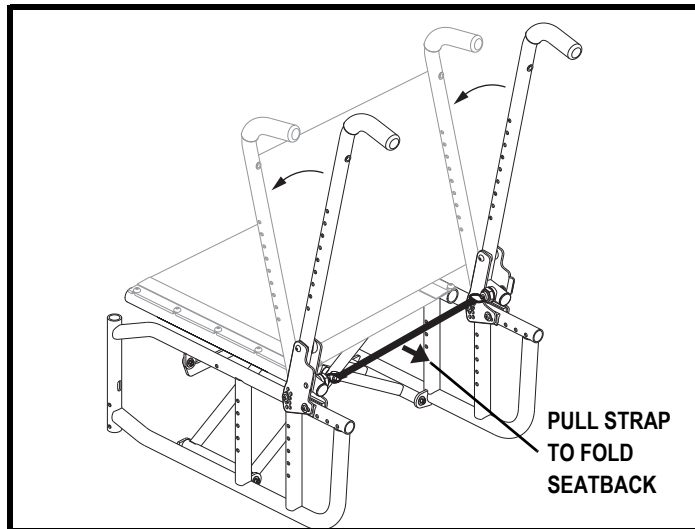

Figure 12. Folding the Seatback Down
3. Pull the strap at the rear of the seat base away from the wheelchair to fold down the seatback. See figure 12.